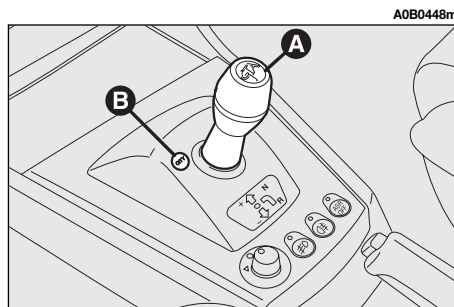
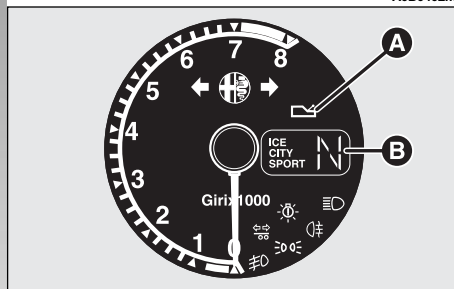

fig. 114
fig. 116
Gearshifting takes place through a floating control lever (**A-fig. 114**) with only one stable central position. Using this lever it is possible to request increase/decrease of the ratio of the gear engaged and/or engagement of reverse gear (**R**) or neutral (**N**).
- the second is automatic, called **CITY** (mode selectable with the specific button **B**-fig. 114, the **CITY** sign appears on the display **fig. 116** fitted on rev-counter), in which the system decides directly when to shift gear.
The gear engaged (**fig. 116**) is always signalled on the display regardless of the selected mode.
Failures of Selespeed gearbox are signalled to the driver through a warning light (**A**-fig. 116) accompanied by an acoustic signal.
Turning the ignition key to **MAR**, all the segments of the display (**B**-fig. 116), the gearbox failure warning light (**A**-fig. 116) and the word **CITY** light up. After about one second, the display indicates the gear engaged (**N, 1, 2, 3, 4, 5, 6, R**); from this moment, the Selespeed system accepts gearshift commands.